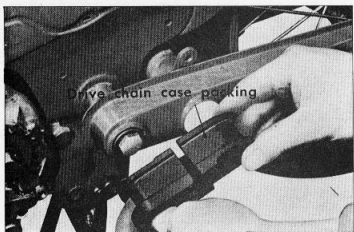

Figure 4-43. Installing chain case packing
- a. Care should be taken when installing the chain case gasket. (Fig. 4-43)